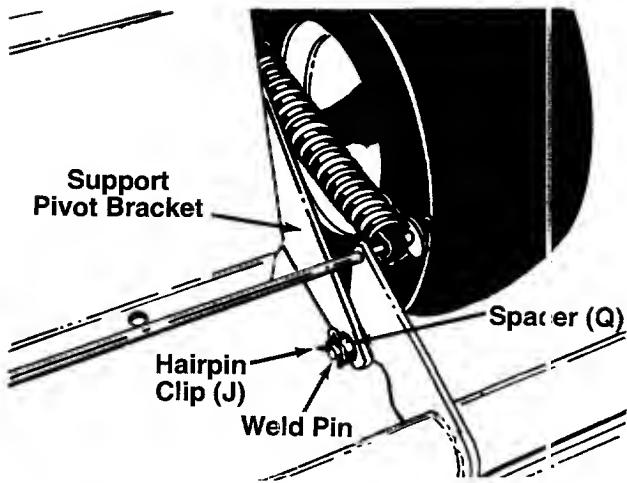
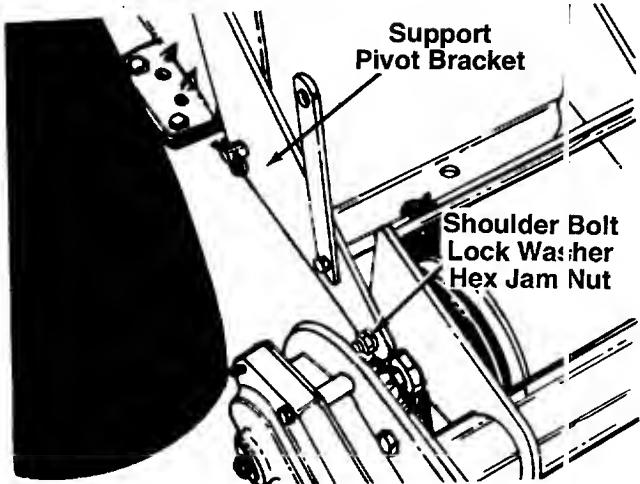
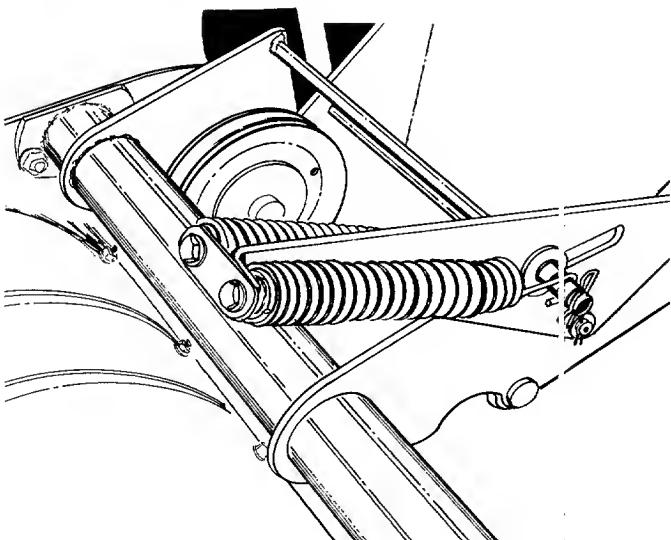

FIGURE 8.
FIGURE 9.
FIGURE 10.
16. There is a weld pin on the front of the tiller on the right hand side. Push the tiller forward, then to the left so the weld pin goes through the bottom hole in the right hand pivot support bracket. See figure 8.
17. Secure the weld pin using flat washer (D) and hairpin clip (J).
18. Secure the left hand side of tiller to the support pivot bracket using shoulder bolt, lock washer and hex jam nut provided. Head of the shoulder bolt must be to the inside of the tiller. See figure 9.
19. Thread the adjustment ferrule (P) onto the end of the lift rod assembly a few turns. Slide the ferrule and the lift rod assembly through the slot in the right hand tractor fender.
20. Attach the lift rod assembly to the rod which is part of the pivot bracket assembly as follows. See figure 10.
- A. Place flat washer (U) over the rod on the pivot bracket assembly.
- C. Place one flat washer (B) over rod, then two spacers (V). Secure with hairpin clip (W).
- D. Place one flat washer (X) over one hex bolt (Y). Hook one compression spring between the two spacers just assembled in step C. Insert the hex bolt (Y) through the bracket on the lift rod assembly and start it into the compression spring.
- E. Start the other spring in the same manner, hooking it over the rod on the pivot bracket assembly (to the **inside** of the bracket). Now tighten both bolts (Y) securely.